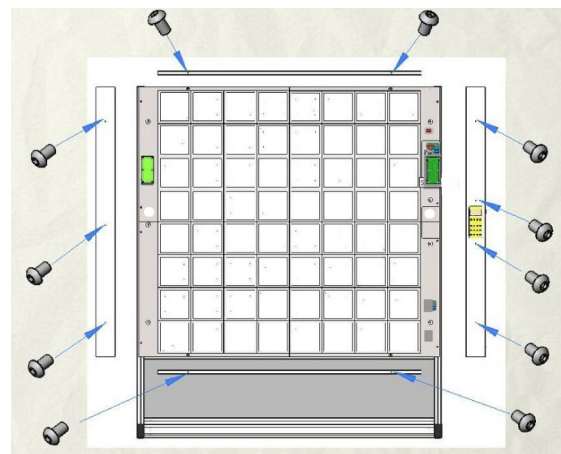

fig. 3.1-37
**Step 28** Screw the lateral stainless steel frame covers **B1** and **B2** and the upper / lower stainless steel frame cover **B3** respectively to the threaded bolts attached to the basic modules using the eleven (11) fillister head screws **M6x10** provided and the corresponding Allen key (**fig. 3.1-37**). Please remove the protection film before you assemble the frame cover.